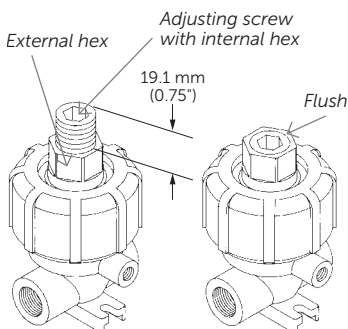

Figure 3.
12. Place the diaphragm preload tool (T2) onto the retainer nut (P1) and screw on the outer cap (P9) to hold it in place (see Figure 3).
7. Secure the diaphragm preload tool (T2) in place with the outer cap (P9) (see Figure 3).
8. With an adjustable wrench (S6), hold the diaphragm preload tool (T2) external hex from rotating and turn the internal hex on top of the diaphragm preload tool (T2) with the $\frac{1}{2}$ " allen wrench (S7) clockwise until it is flush with the top surface of the tool (see Figure 3).